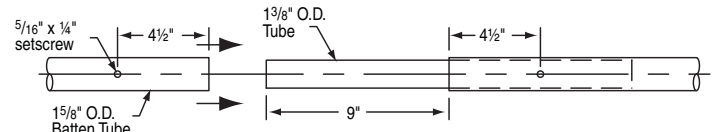

Figure 4
- ① Lay the curtain out with the top of the curtain close to the lift cables hanging down from the drive pipe.
- ② Slide 1⁵/₈" top batten tube into top pocket one section at a time, assembling as you go. Use 1³/₈" OD x 1'6" tube to connect sections of batten tube. Splice should be installed with so equal portions are inside each tube that is being connected. Install 5/16" x 1/4" setscrews in pre-drilled and tapped holes in batten tubes. Make sure outer tube sections are rotated to where the setscrews are in line prior to tightening (See Figs. 4 and 5).